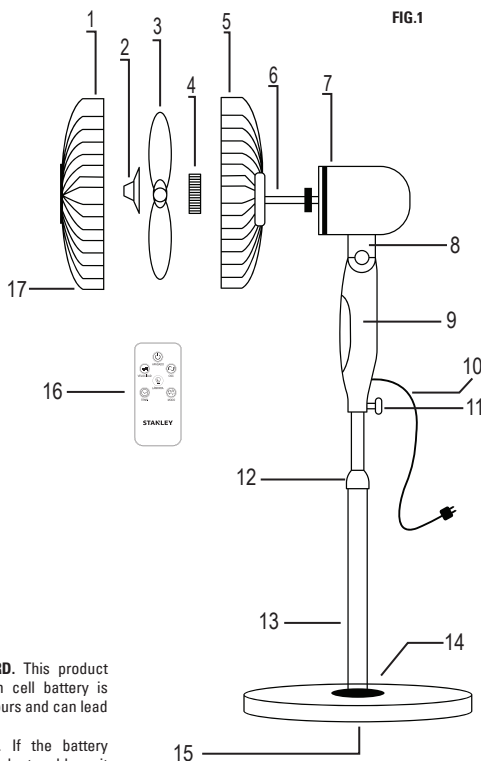

FIG.1
4. To adjust the height of the stand fan, adjust it by using the Adjustable Knob (12) (FIG.1).